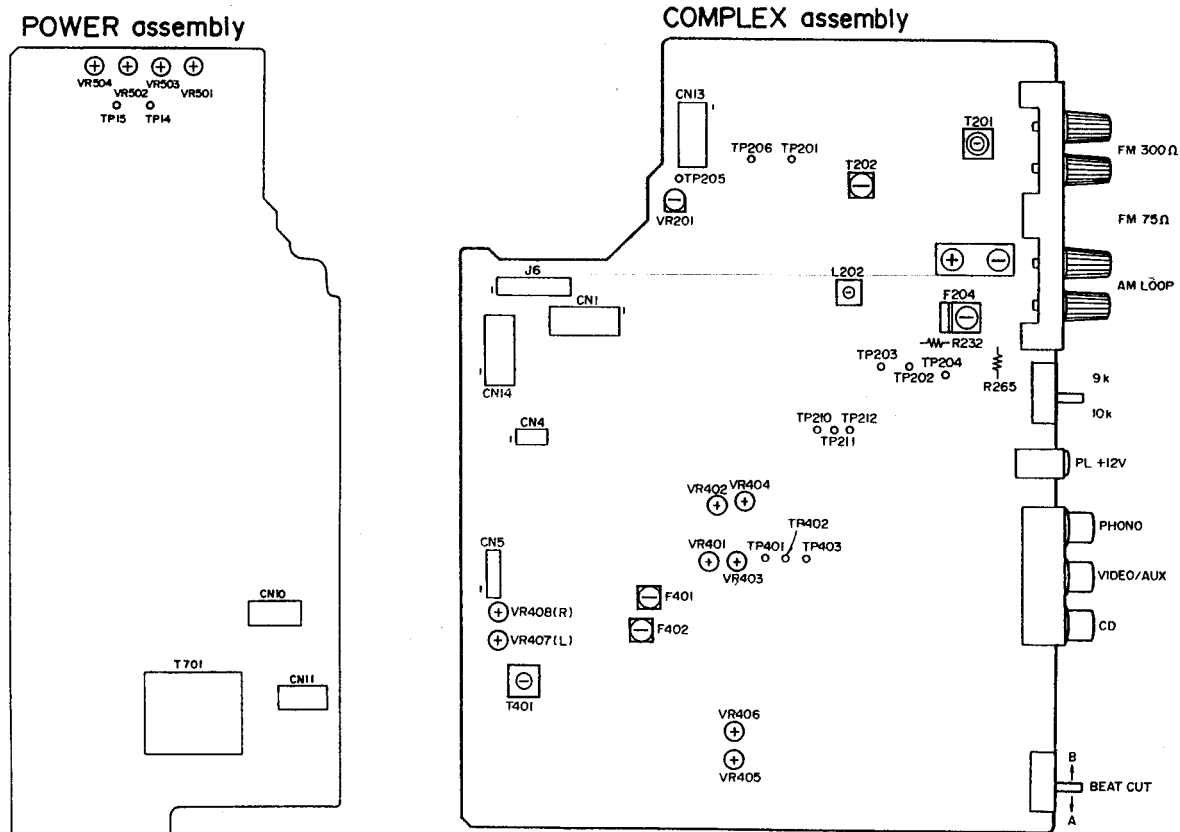

Fig. 7-1 Adjustment points
• Adjustment points are as shown in Fig. 7-1
- Adjustment point are as shown in Fig. 7-1